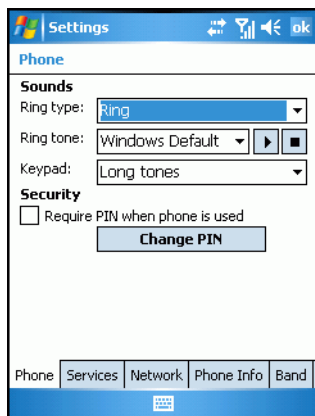

Figure 5-11 MC70 Phone Window - Phone Tab
1. From the *Phone* tab (Figure 5-11), select the **Require PIN when phone is used** check box under **Security**.
1. From the **Phone** tab (Figure 5-11), tap **Change PIN**.
1. From the **Phone** tab (Figure 5-11), deselect the **Require PIN when phone is used** check box.